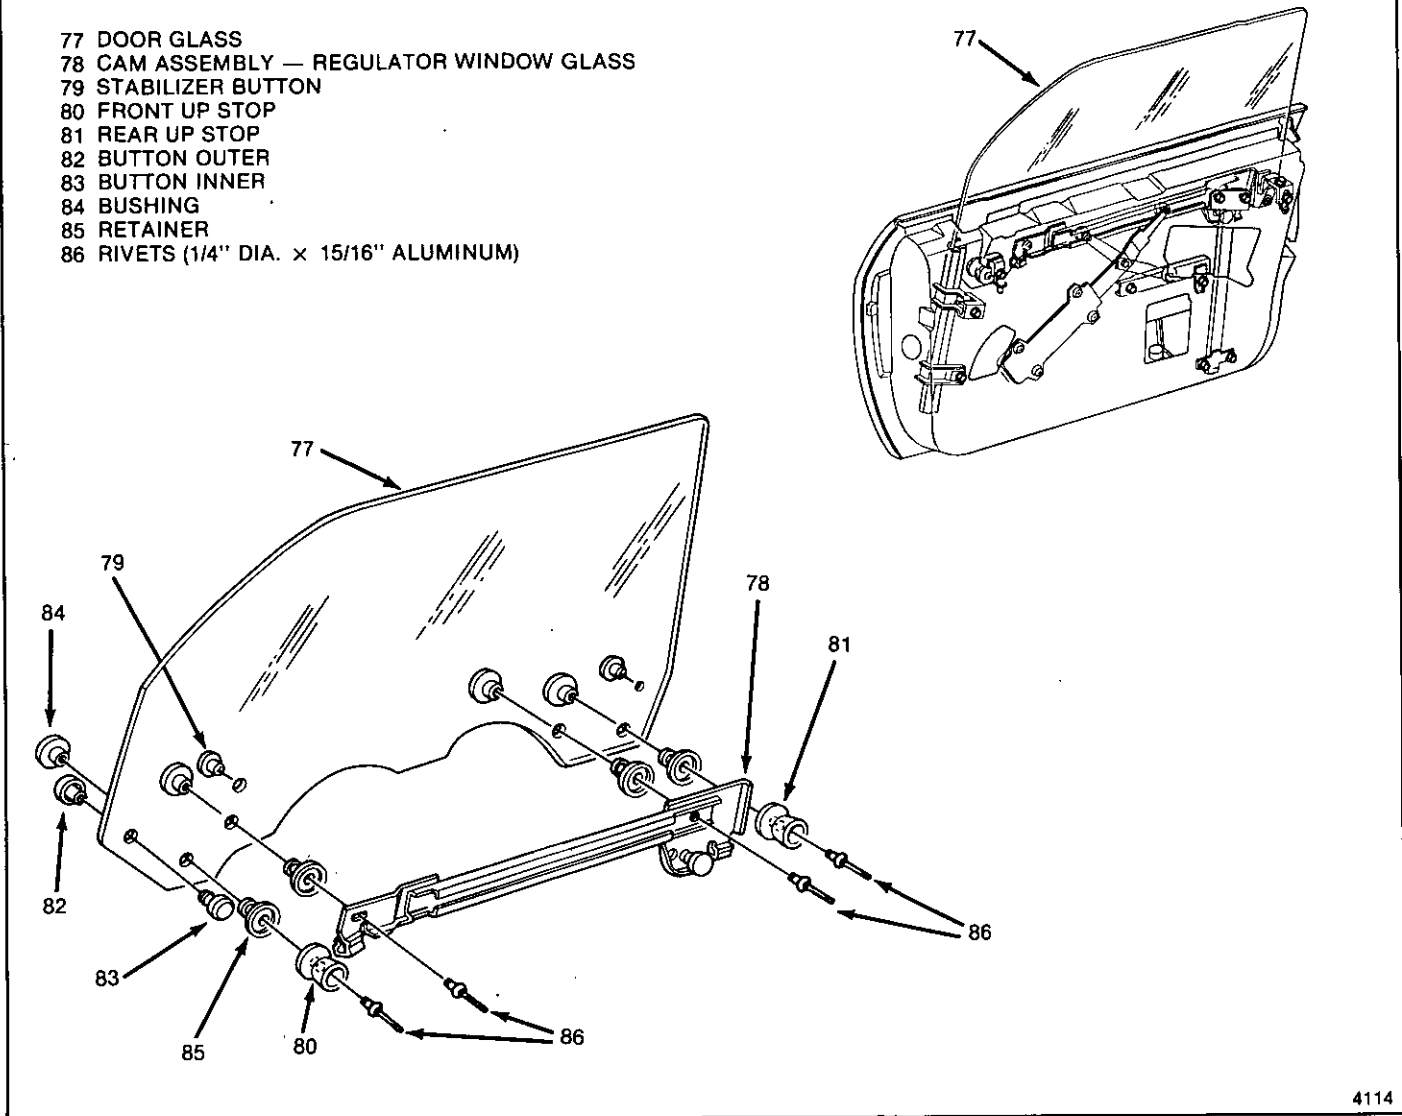

Fig. 5-22-Door Glass Assembly
**Remove or Disconnect (Figure 5-22)**
5. Rivets (86)
- front stop (80)
- rear stop (81)
9. Glass (77)
**Install or Connect (Figure 5-22)**
2. Glass to cam assembly (78)
4. Rivets (86)
**Remove or Disconnect (Figures 5-22, 5-23)**
4. Rivets from cam assembly (78)
5. Separate glass from cam assembly (78)